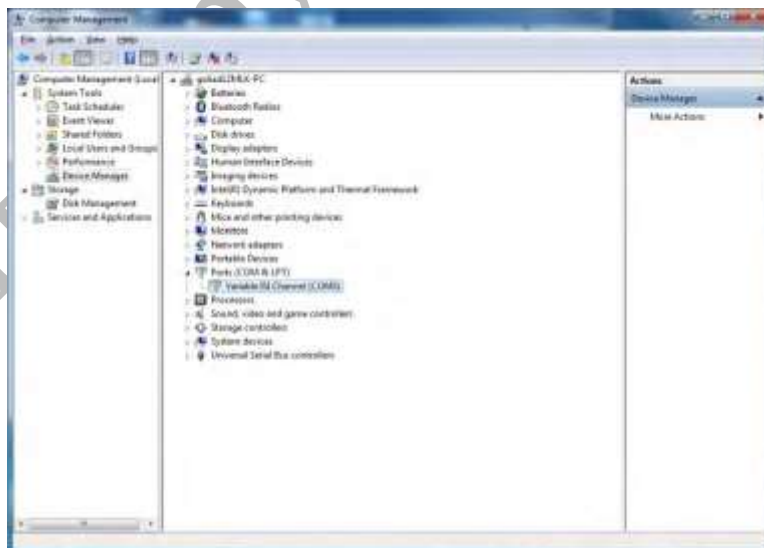

FIGURE 50. DEVICE MANAGER WINDOW AFTER INSTALLATION
7. Once installation has completed, the Device Manager should look like Figure 50.